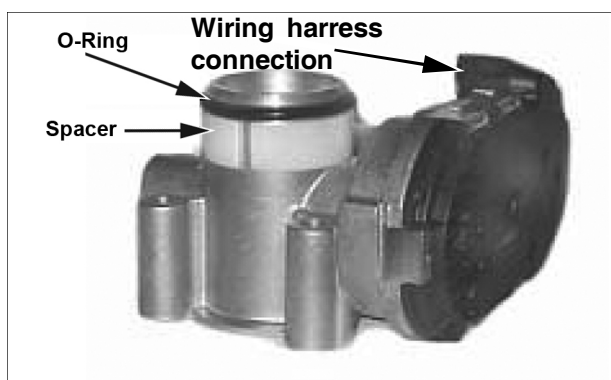
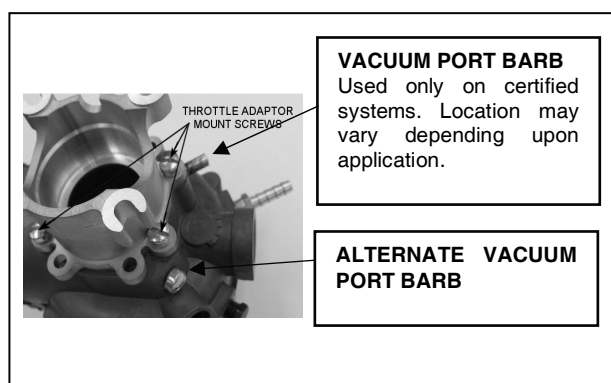

Figure 31. O-Ring and Spacer Within Mixer Adapter Assembly
Figure 32. Throttle Adapter Mount Screws
4. Remove the air cleaner hose (1).
5. Mark the two vacuum lines (2) to the mixer for identification, as they must be reinstalled correctly for proper operation. Remove the two vacuum lines (2).
6. Remove vapor fuel inlet line (3) from the fuel temperature sensor fitting (4).
7. Disconnect the fuel temperature sensor connector (5).
8. Disconnect the wires leading to the electronic throttle body by pinching the lock tabs on either side of the wiring harness connector. (See Figure 31 for location of connector)
9. Loosen the four bolts (6) that secure the mixer/adapter/throttle body assembly to the intake manifold.
10. Remove the mixer (9), the adapter (7), and the throttle body (8) as an assembly by gently pulling upwards. Take care not to drop anything down the intake manifold.
13. Remove the fuel temperature sensor (not shown) from the tee (4).
15. Remove the short vacuum port barb from the mixer. (See Figure 32 for location of port barb on mixer.)
NOTE: A plastic O-ring spacer and an O-ring are inside the mixer/adapter assembly. Be careful not to lose these items when removing the assembly from the throttle (Figure 31).
1. Install the vacuum port barb onto the mixer (9).
2. Install the fuel temperature sensor fitting (4) onto the mixer.
4. Install the four mounting screws that attach the throttle adapter (7) to the mixer. See Figure 32. Torque bolts to 30-40 lbf-in (3.39-4.52 N·m).
5. Position the mixer/adapter assembly onto the throttle body (8), then drop in the four mounting bolts (6) and gently push down on the assembly until it rests on the throttle body. Be careful not to pinch the O-ring. (See Figure 31.)
7. Connect the wiring harness to the throttle body. (See Figure 31 for location of connector.) Connect the fuel temperature sensor connector (5) to the sensor.
8. Install the vapor fuel inlet line (3) to the fuel temperature sensor fitting.
9. Install the two vacuum lines (2) to the mixer using the previous marks for identification. Vacuum lines must be installed correctly for proper operation.
10. Install the air cleaner hose (1).